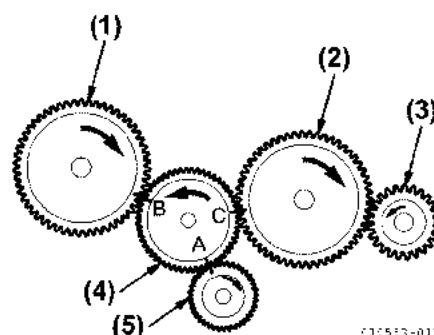

Figure 5-161
- (d) Align the “B” match marks on the fuel injection pump drive gear and idler gear (Figure 5-161).